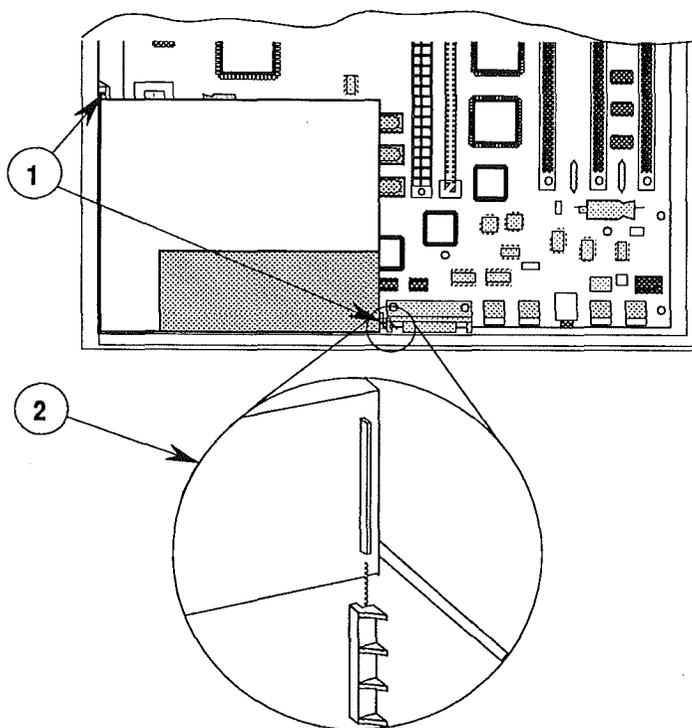

FIGURE 6
1. Line up the power supply correctly over the space on the logic board. Make sure that the two lips on the power supply case (Figure 6, #1) line up with the slot on the left side of the case and the slot on the back wall of the case (Figure 6, #2).